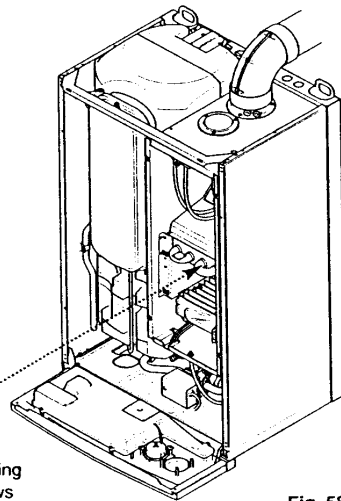

Fig. 58
**11.6 Heat Exchanger (Figs. 58 & 59)**